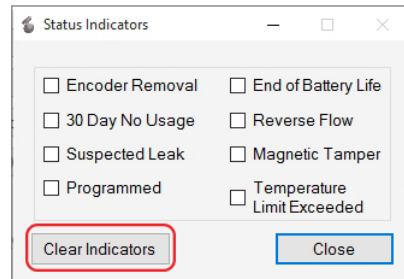

Figure 26: Status Indicators
1. With the IR head aligned, click **View Indicators**. The Status Indicators pop-up window displays (Figure 26).